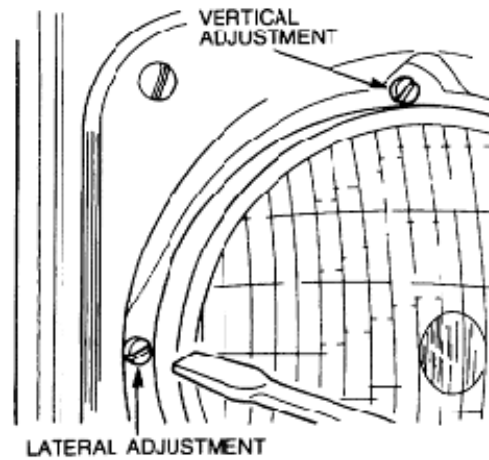

Figure 149 Headlight Beam Adjustment
- d. Adjust the lateral and vertical screws (Figure 149), until the area of concentrated light corresponds with the pattern on the board [approximately 76 mm (3 in) below the centre line of the corresponding headlight.